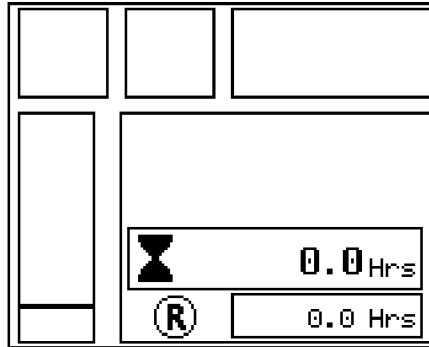

Fig. 3-9 Main screen
- ↪ The symbol @ appears in the S1 field on the main screen (siehe Fig. 3-9)